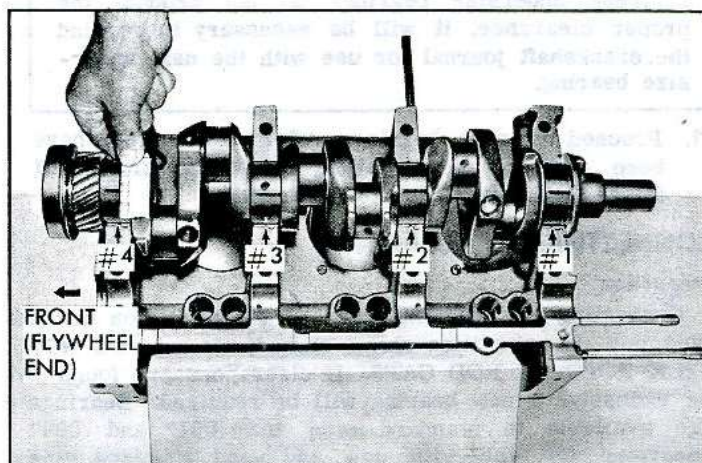

Fig. 122—Measuring Gauging Plastic on Journal
2. Place a piece of gauging plastic the full width of the bearing parallel to the crankshaft on the journal (fig. 122).
5. Without removing the gauging plastic, check its compressed width (at the widest point) with the graduations on the envelope (fig. 122).
NOTE: Install a piece of plastic hose with 5/16" I.D. over each bolt (fig. 122).